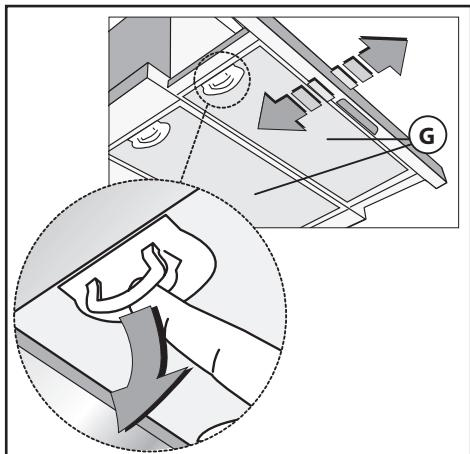
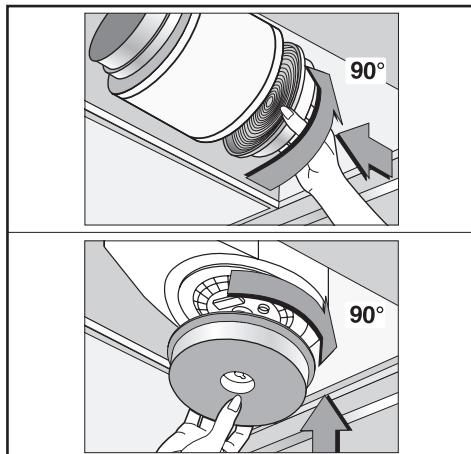

Fig.4
Fig.5
- If the hob is electric, gas, or induction, the minimum distance between the same and the lower part of the hood must be at least **65 cm**. If a connection tube composed of two parts is used, the upper part must be placed outside the lower part. Do not connect the cooker hood exhaust to the same conductor used to circulate hot air or for evacuating fumes from other appliances generated by other than an electrical source. Before proceeding with the assembly operations, remove the anti-grease filter(s) (Fig.4) so that the unit is easier to handle.
To transform the cooker hood from the extraction version to the recirculating one ask your supplier for an activated carbon filter. The filter must be fitted to the extracting group cooker hood in the centre of the fan grille by twisting it by 90 degrees until it is gripped securely (Fig.5). For this operation remove the anti-grease filter(s) **G** (Fig.4). The clean air is returned into the room through a connecting tube passing inside the cupboard and connected to the ring **H** (Fig.3B).